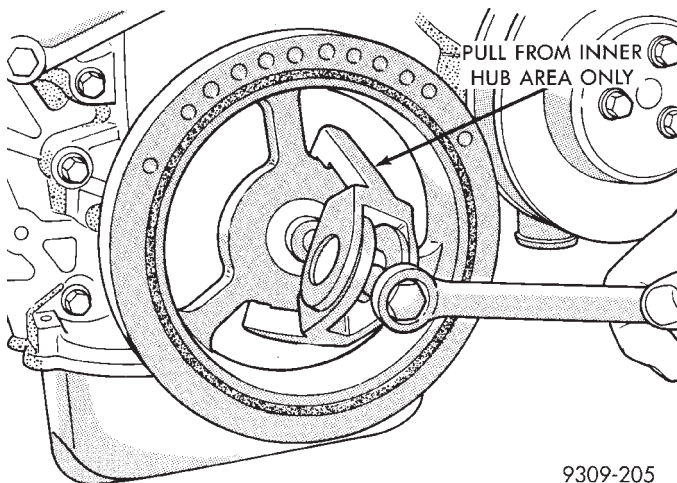

Fig. 1 Removing Crankshaft Pulley
- (1) Disconnect battery.
- (2) Drain cooling system. Refer to Cooling System Group 7 for procedure.
- (3) Support engine and remove right engine mount.
- (4) Raise vehicle on hoist. Drain engine oil.
- (5) Remove oil pan and oil pump pick-up. It may be necessary to remove transmission inspection cover.
- (6) Remove right wheel and inner splash shield.
- (7) Remove drive belt. Refer to Cooling System Group 7 for procedure.
- (8) Remove A/C compressor and set aside.
- (9) Remove A/C compressor mounting bracket.
- (10) Remove crankshaft pulley (Fig. 1).